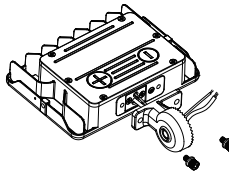

figure 1.1
Step 2: pass the wires through hardware and fix it with screws. (figure 1.1)